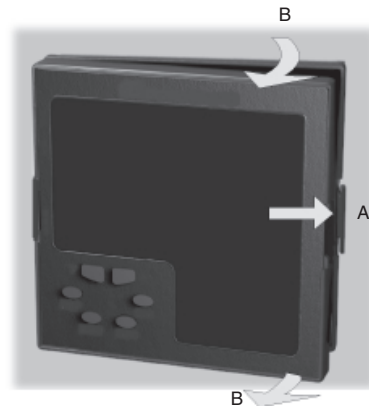

Fig. 19.a
- 3) While the lock A is maintained out, slide out the right side of the instrument (see fig. 19.a)